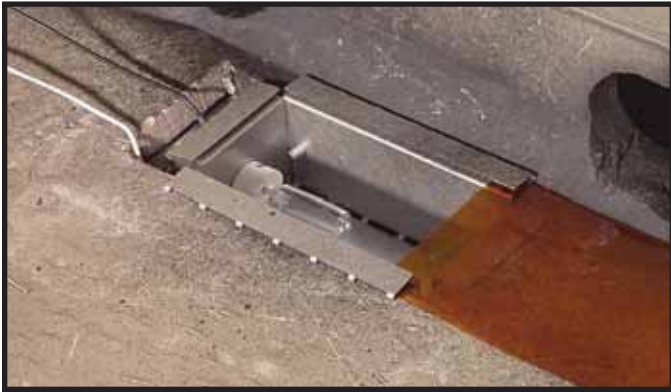

Figure 3.1
- Slide the orange lens to the right to open the bulb cavity. See Figure 3.1. Remove old bulb. Replace the bulb with a 75 watt or less halogen bulb. See Service Parts List.